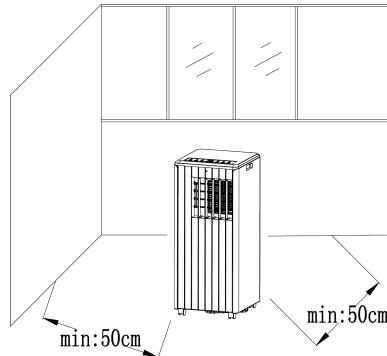

Figure4
1) Move the machine with installed heat pipe and fittings before the window, and the distance between the body and walls or other objects shall be least 50cm (as shown in Fig.4).